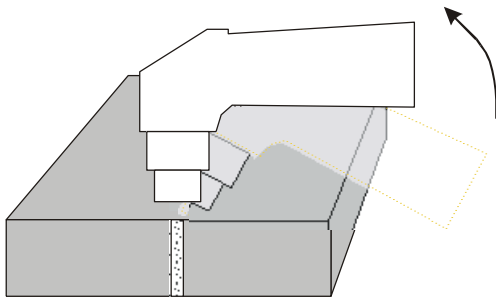

Fig. 6
4. To achieve a good cutting quality make sure the distance between the tip and the material is about 2 mm. The Standoff Guide ABI25/45 pos 22 located at the end of the plasma torch guarantees the distance. At a greater distance decreases cutting power and the arc may go off. With too small distance the torch parts will be worn off faster.
6. We recommend starting cutting at the edge of the material. If needed to start from the centre of the material, or to cut hole into the material, slightly tilt the torch head and gradually it straighten into a vertical position so the spraying material would not damage the cutting tip (see Figure 6). This workflow must always be followed, if the thickness of material is above 3 mm.